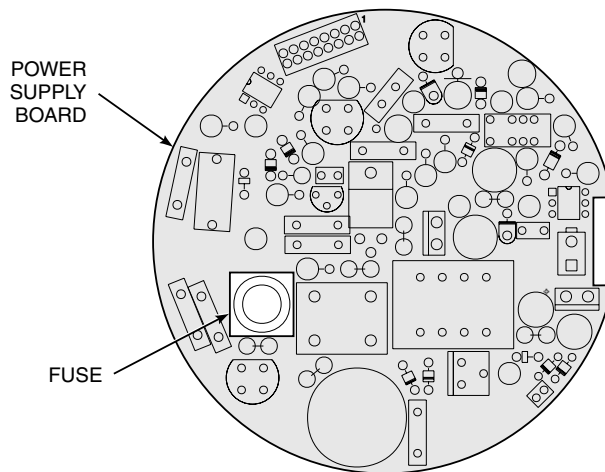

Figure 6-7. Fuse Location
7. Remove the fuse and replace it with a new one (Figure 6-7).